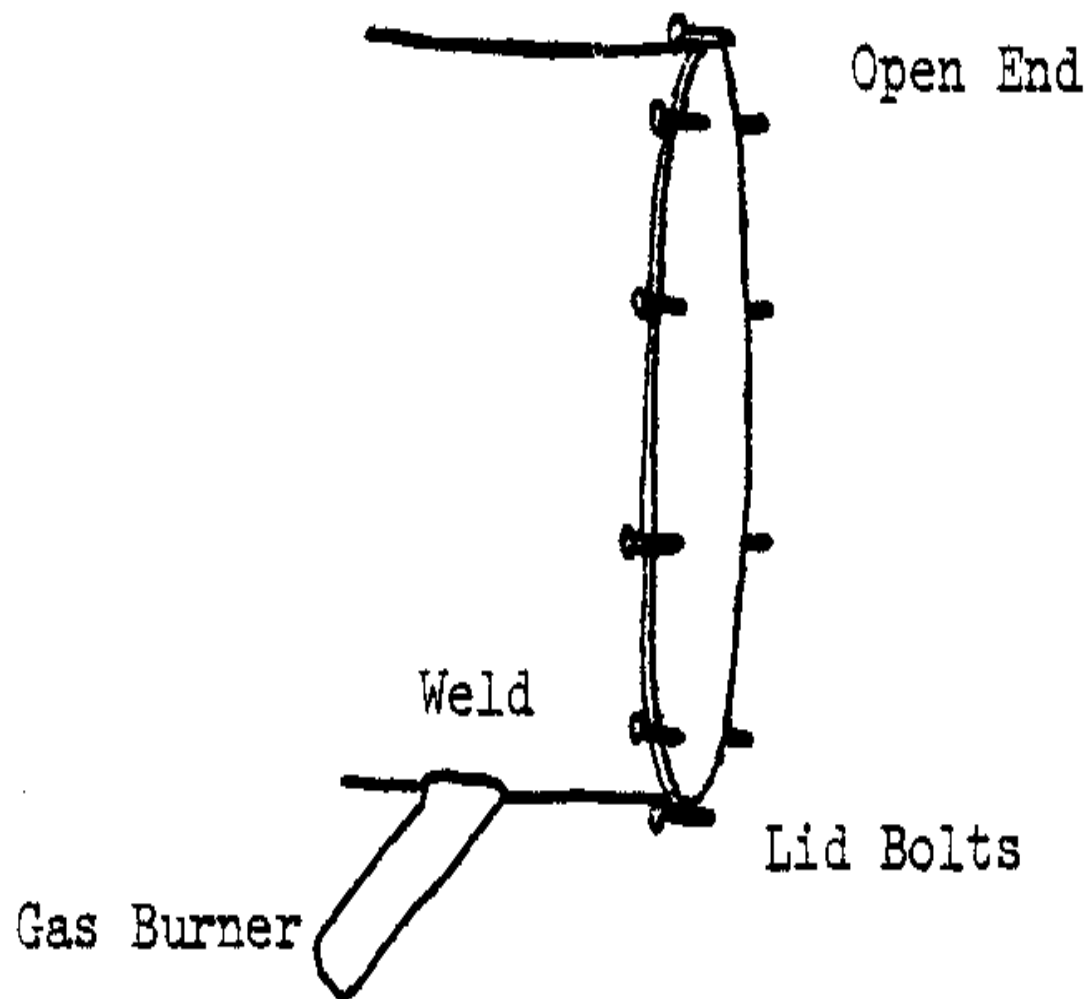

Figure 8
* Weld one of the two pieces of pipe to one of the two holes; repeat. <see figure 8>